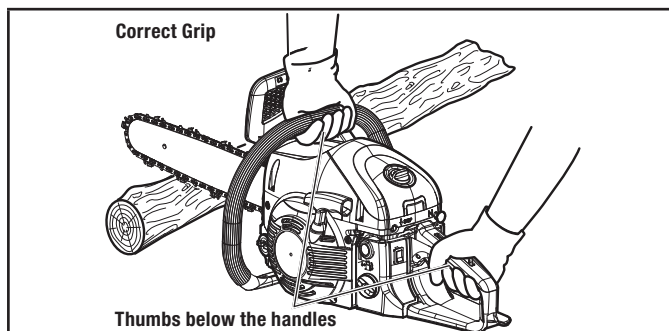

Figure 6
- Firmly encircle the handles with the thumbs and fingers (Fig. 6). This will help reduce the chance of losing control of the chainsaw if kickback occurs. Any grip with thumbs and fingers on the same side of the handles is dangerous.